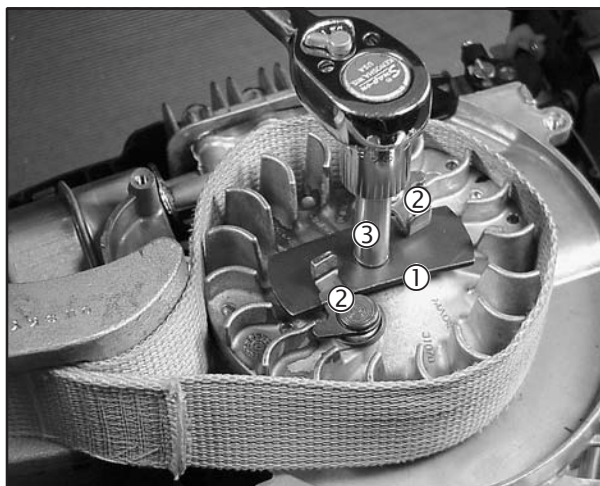

Fig. 20
1. Install flywheel puller Tool #19538 (1) with the concave side down.
2. Rotate puller so that it is under the starter pawls (2).
3. Insert the driver in to flywheel nut /crank adapter (3).
5. Turn driver counterclockwise to loosen flywheel nut/crank adapter, Fig. 20.